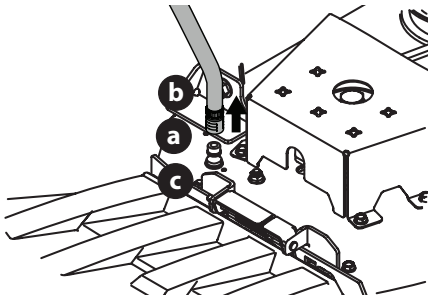

Fig. 24
3. Pull back the lock collar (a) of the nozzle adapter (b) and push the nozzle adapter onto the deck wash nozzle (c). Release the lock collar to lock the nozzle adapter on the deck wash nozzle (Fig. 24).